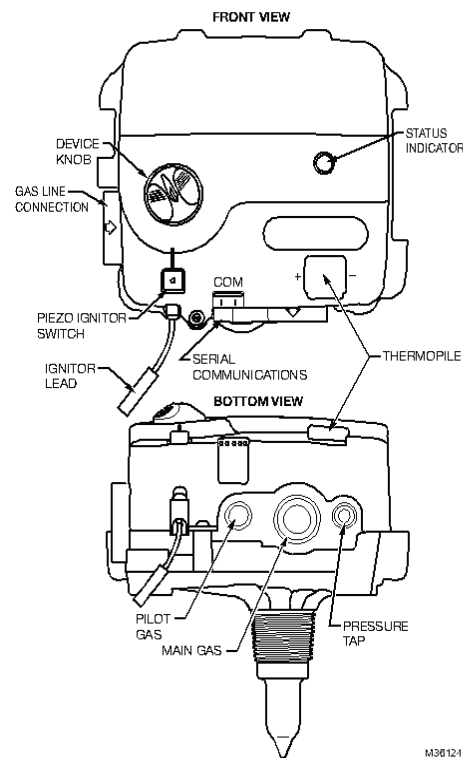

Fig. 5. Water heater controls and connections.
8. Position compression fitting in pilot outlet and engage threads. See Fig. 5 for controls and connections. Turn until finger tight, then tighten one more turn with a wrench. Do not overtighten.
Connect control circuit to the water heater control using the connections shown in Fig. 5.
2. With burner operating, check the water heater control flow rate using the meter clocking method or check pressure using a manometer connected to the outlet pressure tap on the water heater control. See Fig. 5.